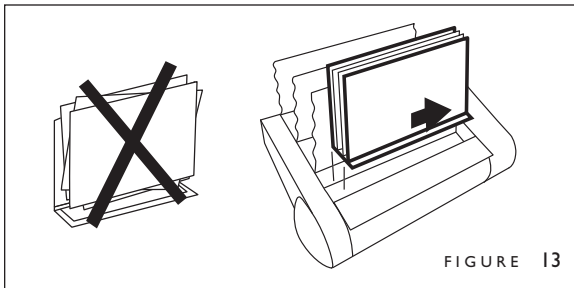

FIGURE 13
4. Tamp your document cover and pages on the front flat surface of the housing so that they are straight. Place your assembled document into the binding recess and slide it all the way to the right (figure 13). Tap the document on the top and the left to ensure all pages are even.